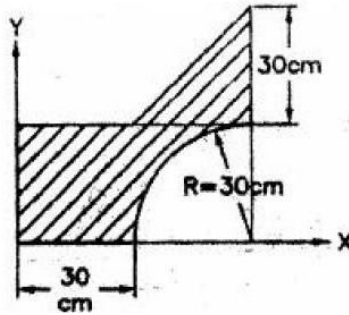

Figure 4: 5A
5. (a) Determine the coordinates of centroid of the shaded area shown in **fig 4** [7m]